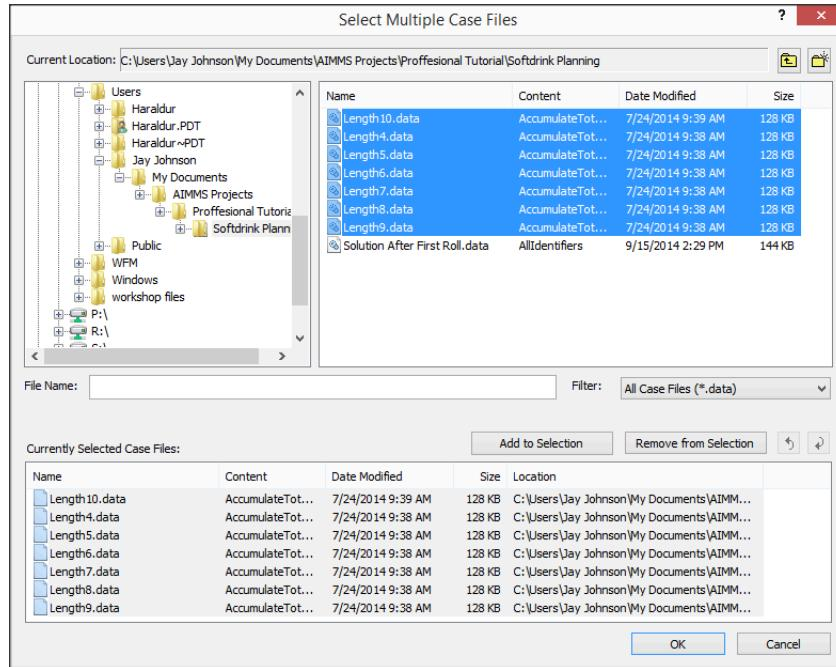

Figure 14.10: The Select Multiple Cases dialog box
- ▶ press the **Add to Selection** button to transfer the selected cases to the right list-box (see Figure 14.10), and